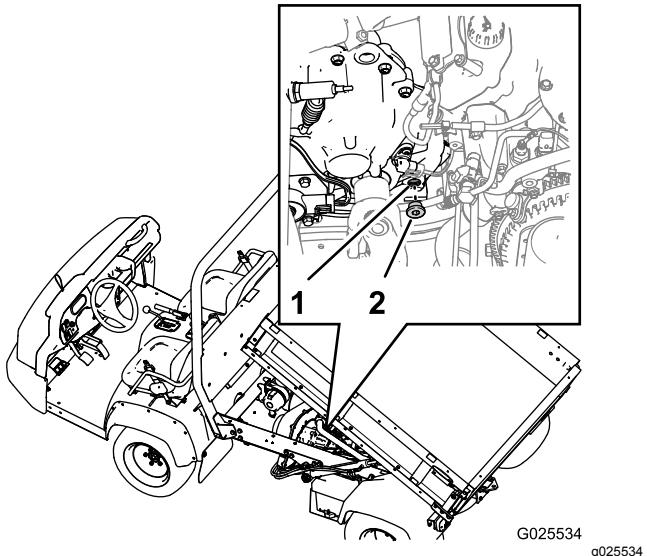

Figure 57
1. Locate the fill plug at the lower-inboard area at the back of the transmission (Figure 57).
3. Rotate the plug counterclockwise and remove the plug from the fill port in the transmission (Figure 57).
4. If the transmission-fluid level is low, add transmission fluid of the specified type into the transmission through the fill port until the fluid level is flush with the bottom of the threads in the port (Figure 57).
6. Install the fill plug into the transmission and tighten it by hand (Figure 57).